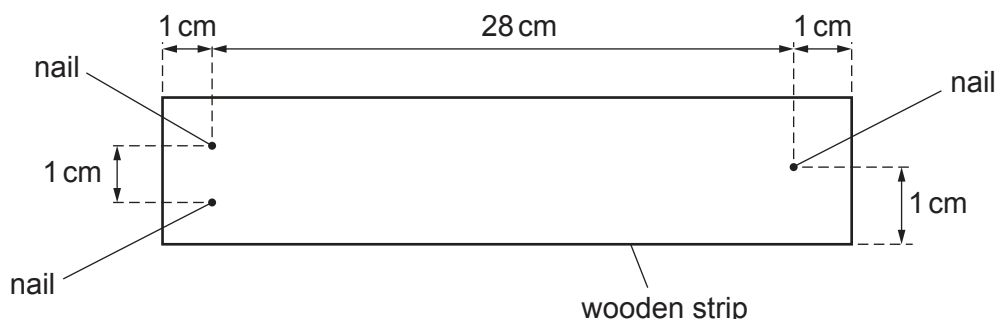

Fig. 1.1 (not to scale)
- 1 Hammer the three nails into the wooden strip in the positions shown in Fig. 1.1.